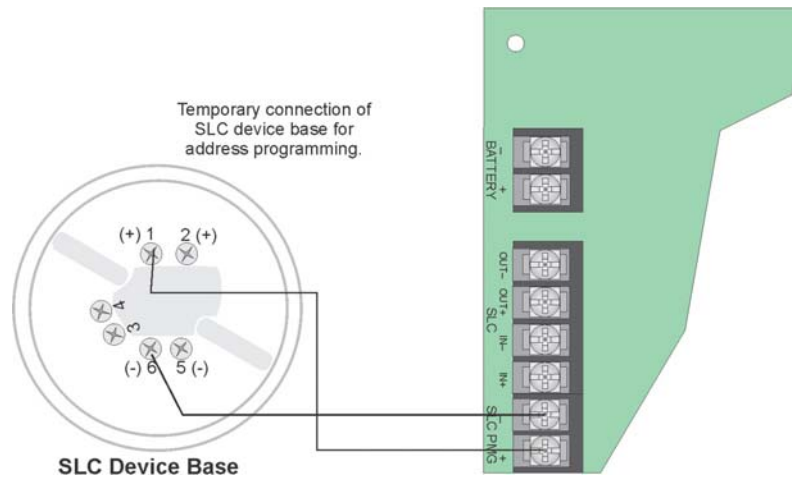

Figure 7.7 Temporary Connection of Detector Base to Panel for Addressing
2. Set the address for each device as described in Section Figure 7.7
1. Connect a detector base temporarily to the programming terminals as shown in Figure 7.7. (You can use the same base for each detector.)